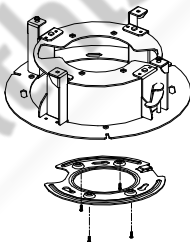

Figure 2-46 Fix the Base Plate to In-ceiling Bracket
2. Fix the base plate onto the in-ceiling bracket with the four screws in the package (supplied). Make sure that the cable holes of the base plate are aligned to the cable holes of the bracket, as shown in Figure 2-46.